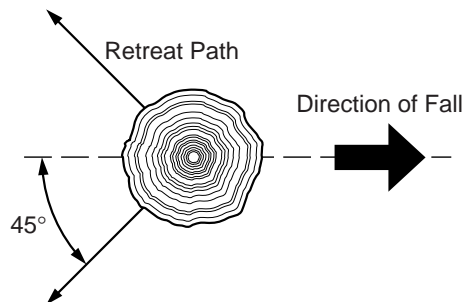

Figure 11 - Retreat Path From Tree
3. **A RETREAT PATH** should be planned and cleared as necessary before cuts are started. The retreat path should extend back and diagonally to the rear of the expected line of fall as illustrated in Figure 11.